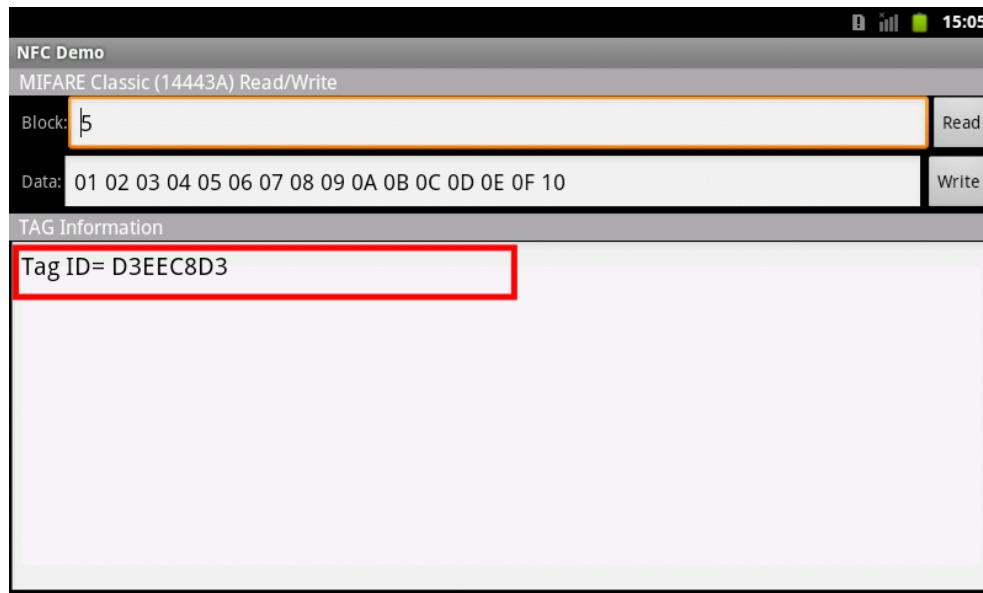

Figure 4-27: Tag Information
Step 3: Use the RFID reader to read a RFID card, then the card number will be shown in the TAG Information column (**Figure 4-27**).